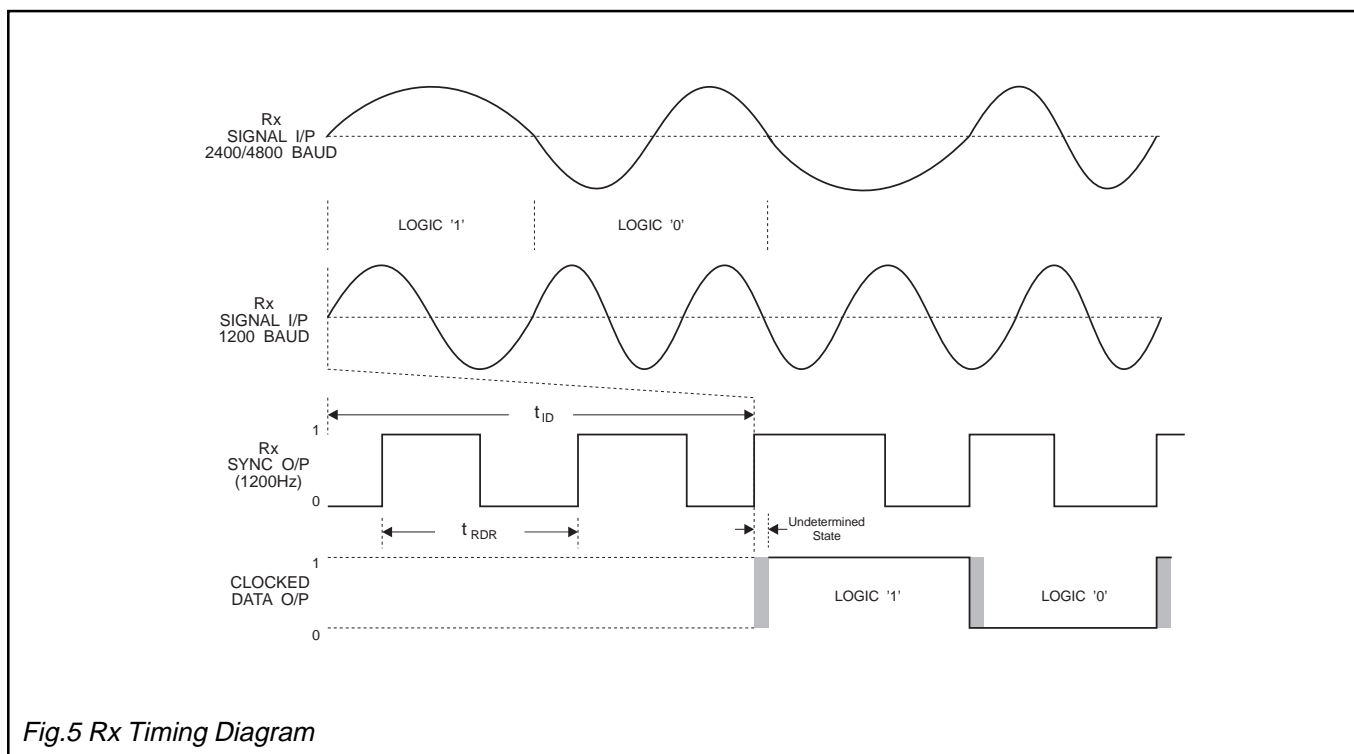

Fig.5 Rx Timing Diagram
3. See Figure 5 (variation of BER with Input Signal Level).